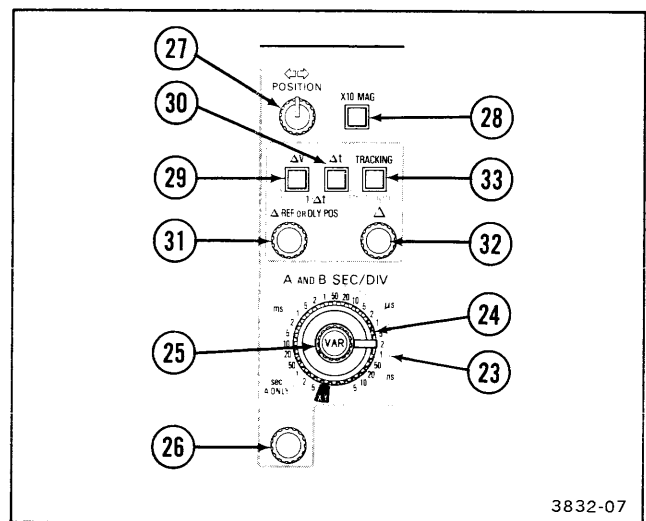

Figure 2-5. Horizontal and delta measurement controls.
Refer to Figure 2-5 for location of items 23 through 33.